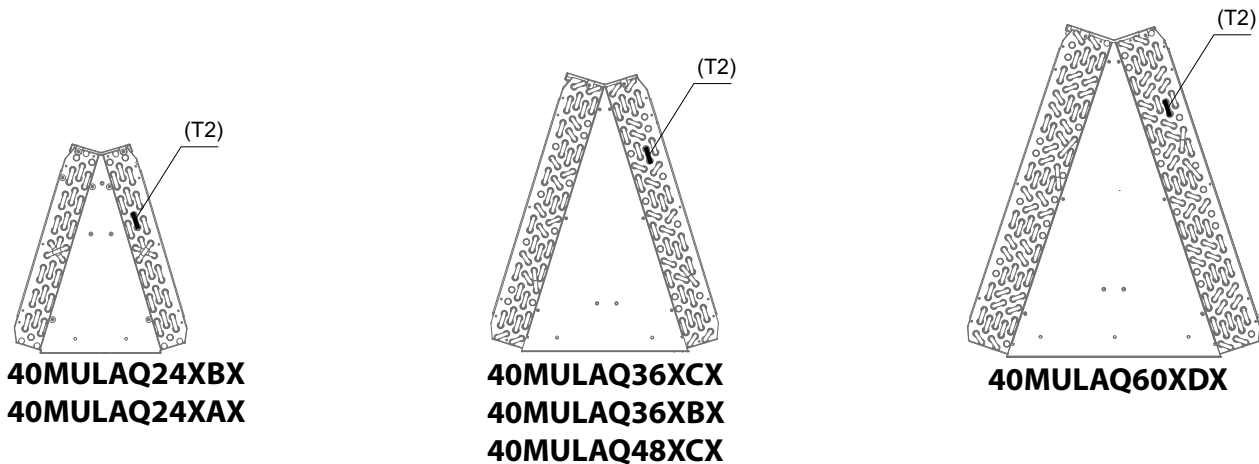

Fig. 14 — Position of Pipe Temperature Sensor (T2) On Evaporator Coil
4. Refer to Fig. 14 to match the T2 sensor location with the appropriate coil with sensor clip provided to install the T2 sensor.